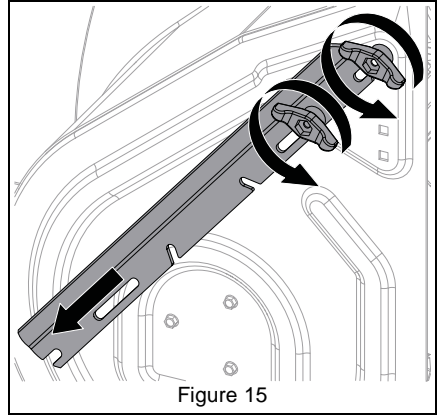

Figure 15
1. Loosen wing knobs and move drift cutter down. See Figure 15.